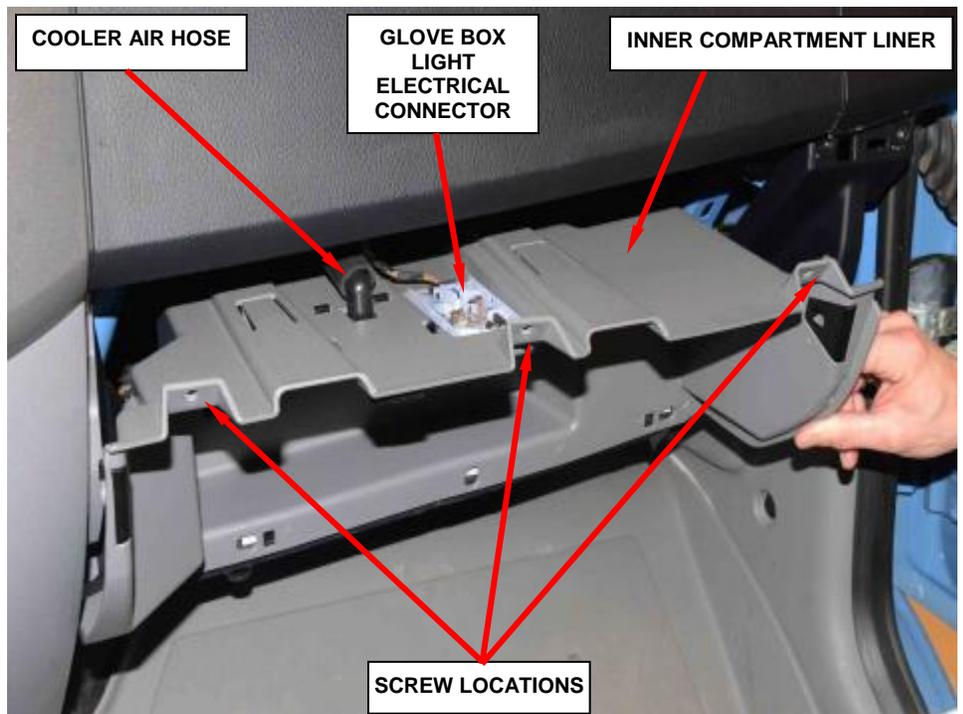

Figure 4 – Inner Compartment Liner
5. Remove and save the three inner compartment liner screws and remove the inner compartment liner (Figure 4).
6. Disconnect the glove box light electrical connector and remove the cooler air hose (Figure 4).
33. Install the cooler air hose to the inner glove box liner and connect the glove box light electrical connector (Figure 4).
34. Install the inner glove box liner and install the three screws. Tighten the screws securely (Figure 4).